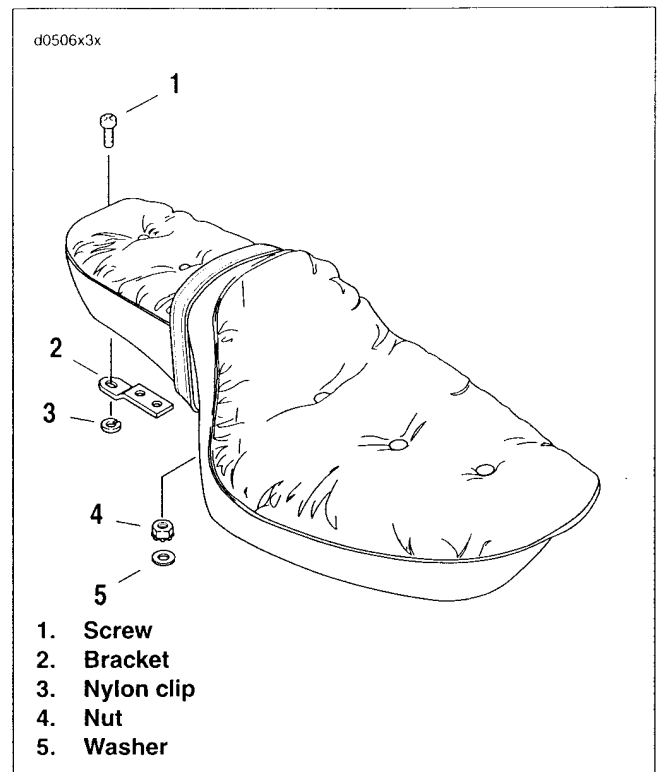

Figure 2-126. Seat
See Figure 2-126. There is a nylon retaining clip (3) between the rear seat bracket and the fender. **DO NOT** lose this clip, substitute a clip of different material or install the seat without this clip. Any of the above actions will result in scratched fender paint.
1. See Figure 2-126. Remove screw (1) from rear seat bracket (2). (Nylon clip remains with fender assembly).